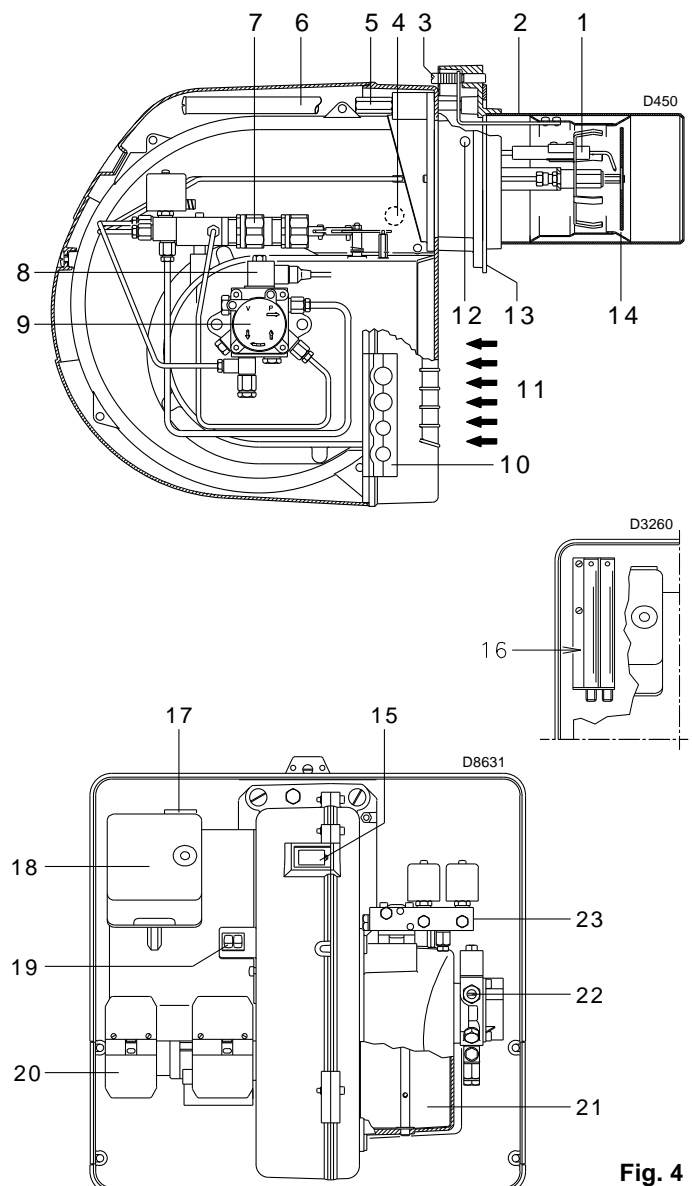

Fig. 4
if the control box 18)(Fig. 4) pushbutton (red led) lights up, it indicates that the burner is in lock-out. To reset, hold the pushbutton down for between 1 and 3 seconds.
pressing the pushbutton on thermal cutout 17)(Fig. 4).
- 2 - Extensions 16)(Fig. 4) for slide bars 6)(Fig. 4) (for model with 351 mm blast tube)